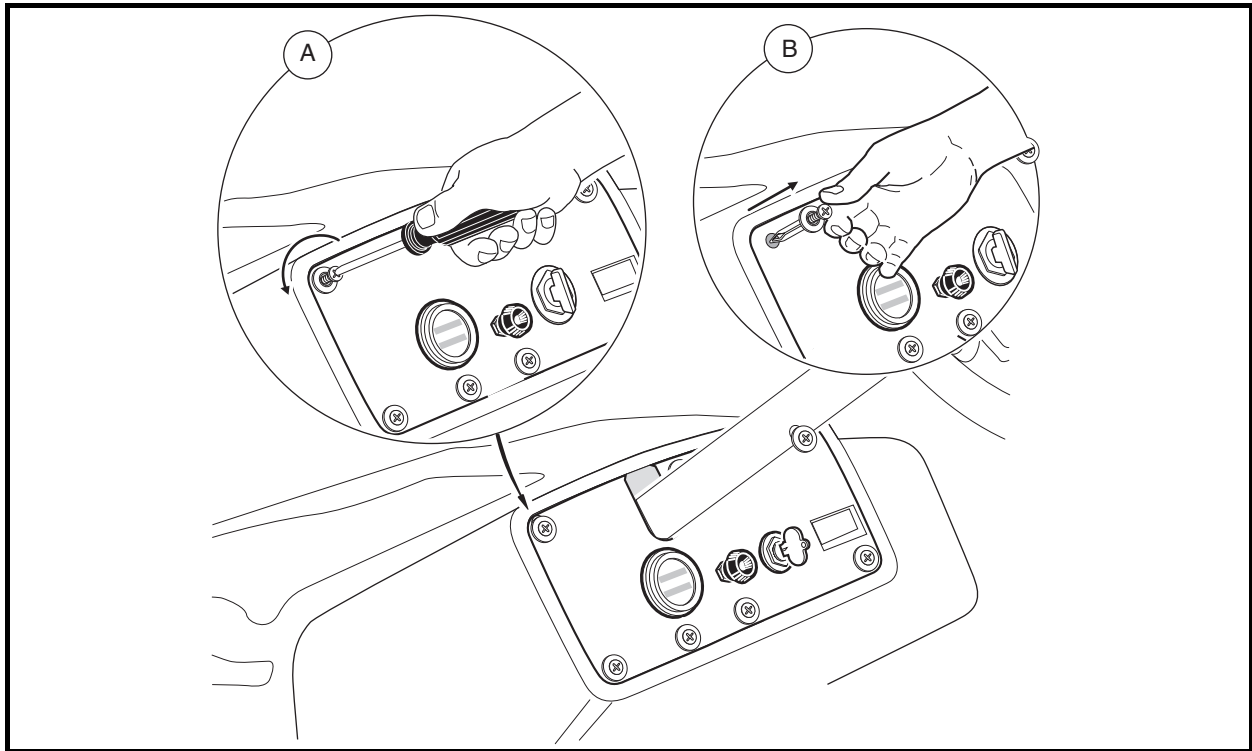

Figure 13-18 Instrument Panel Removal
- 3.1. Loosen seven Tuflok screws, but do not remove screws completely, as shown in Detail A (**Figure 13-18, Page 13-15**).